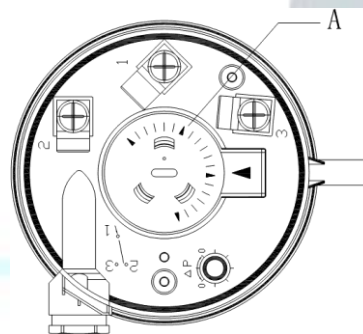

Fig. 8
1. The switch body as Fig. 8 is under the plastic cover.
- screw the printed scale dial (A in Fig. 8) to the required set point. It should be operated with a straight screw driver.